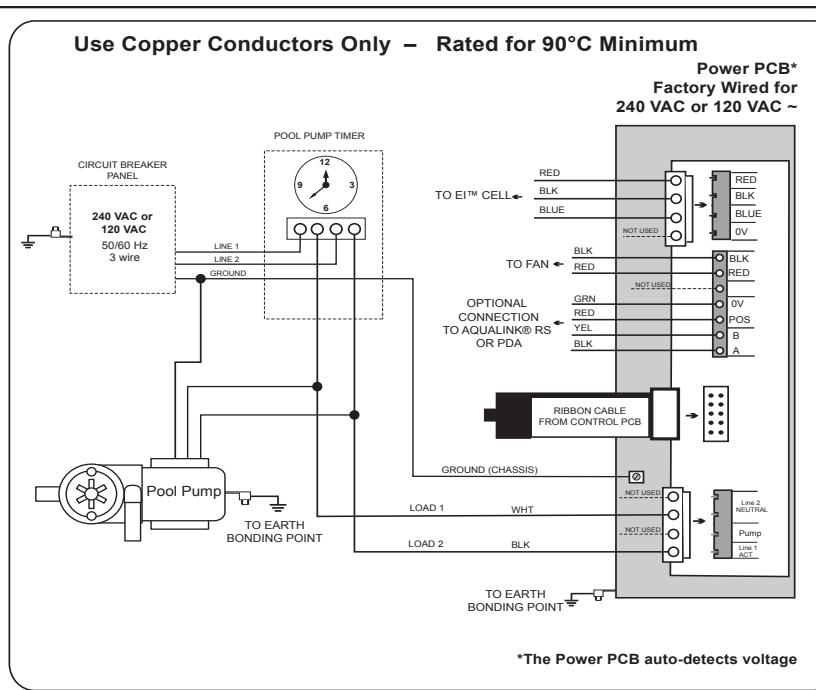

Figure 18. 240 VAC or 120 VAC Wiring Diagram
1. Wire power pack to pool pump power source using 3.3 mm2 (12 AWG) insulated wire and conduit. Wire the power pack to the LOAD side of a pump or the LOAD side of the pool pump timer relay so that the chlorinator can only come on when the pool pump comes on (see Figure 18).